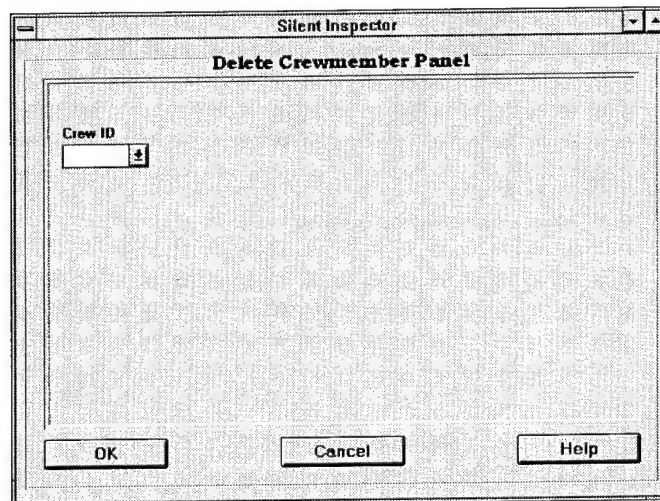

Figure 22. **Delete Crew Member Panel** screen
- Click on **Delete** under the **Crew Member** menu, and the **Delete Crew Member Panel** screen (Figure 22) will appear.